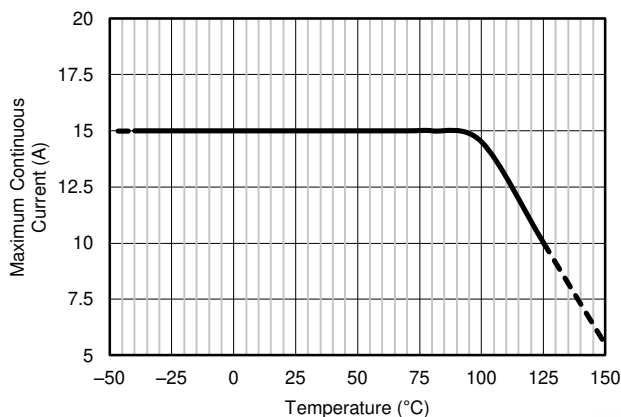

图 7-1. Maximum Current vs Temperature
- (3) The supply voltage range maximum is 36 V, but the reference voltage cannot be higher than 18 V.
- (4) See 图 7-1 and the *Layout* section for additional information on the current derating and layout recommendations to improve the current handling capability of the device at higher temperatures.
- (5) See the 节 7.3.1 section for additional information regarding the integrated current-sensing resistor.
- (6) System gain error includes amplifier gain error and the integrated sense resistor tolerance. System gain error does not include the stress related characteristics of the integrated sense resistor. These characteristics are described in the *Shunt Resistor* section of the *Electrical Characteristics* table.
- (7) The internal shunt resistor is intended to be used with the internal amplifier and is not intended to be used as a stand-alone resistor. See the *Integrated Shunt Resistor* section for more information.
External factors (such as ambient temperature, external air flow, and PCB layout) can contribute to how effectively the heat developed as a result of the current flowing through the total package resistance can be removed from within the device. Under the conditions of no air flow, a maximum ambient temperature of 85°C, and 1-oz. copper input power planes, the INA250 can accommodate continuous current levels up to 15 A. As shown in Figure 7-1, the current handling capability is derated at temperatures above the 85°C level with safe operation up to 10 A at a 125°C ambient temperature. With air flow and larger 2-oz. copper input power planes, the INA250 can safely accommodate continuous current levels up to 15 A over the entire -40°C to 125°C temperature range.